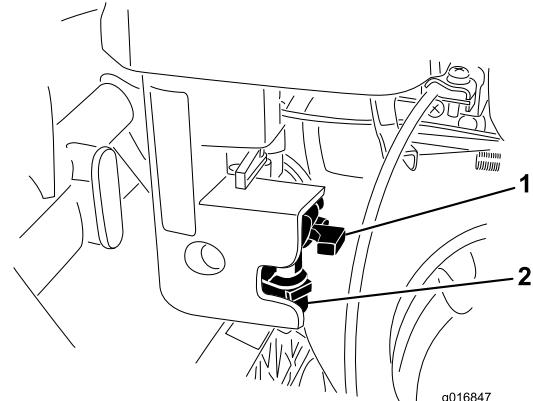

Figure 37
1. Close the fuel shut off valve and unscrew the fuel cup from the filter body (Figure 37).